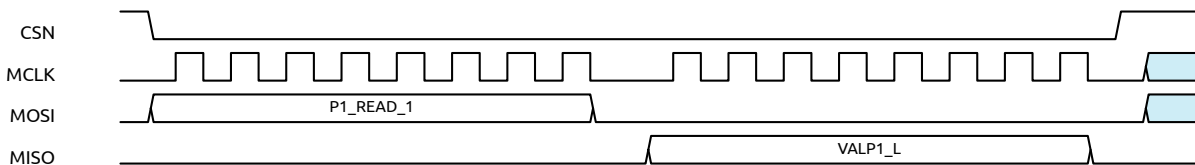

Figure 18: Typical SPI read of a peripheral using SPI mode 0. The illustration shows an example with one read command and 8-bit peripheral data.
**Reading data** Similar to the initialization sequence, the data to be shifted out to the peripheral during read mode, such that the peripheral shifts out the values to be read. This data should be written to SRAM directly after the initialization data. The number of bytes to be shifted during the read phase is defined in ADDR\_P[1-4] field in the ADDR\_P[1-4] register. The last byte (or two bytes in case of 16-bit data) shifted into the nPZero is stored in the VALP[1-4] registers. Typical reading data using SPI mode 0 is shown in Figure 18.